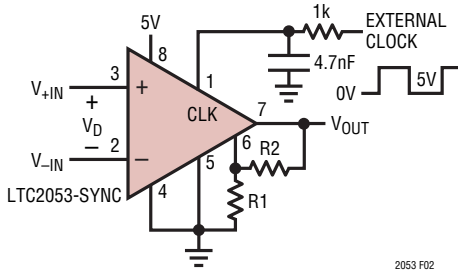

Figure 2. Driving the CLK Input of the LTC2053-SYNC
**LTC2053-SYNC.** If a square wave is used to drive the CLK pin, a  $5\mu\text{s}$  RC time constant should be placed in front of the CLK pin to maintain low offset voltage performance (see Figure 2). This avoids internal and external coupling of the high frequency components of the external clock at the instant the LTC2053-SYNC holds the sampled input.